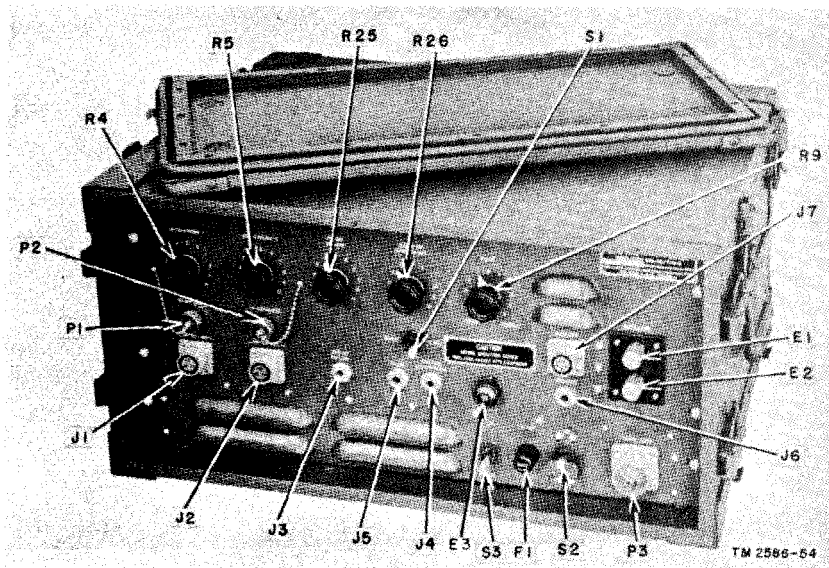

Figure 46. Amplifier AM-20(*)/TIQ-2, control panel.
If the trouble is not located by using the voltage and resistance values (fig. 45), apply tone to each stage and listen to the output from a speaker. Remove the amplifier (fig. 46) from its case. Remove the base plate from the bottom of the chassis. Connect a speaker that is known to be good to the speakers terminals, Plug in Audio Oscillator TS-382/U. Adjust the oscillator to a 1,000-cycle output. Connect the shielded lead of the oscillator test leads to the chassis of the amplifier. Test with the other lead. Proceed as follows and the the parts listed or the connections to those parts.
98. Disassembly of Amplifier Parts (figs. 46,47, and 48)